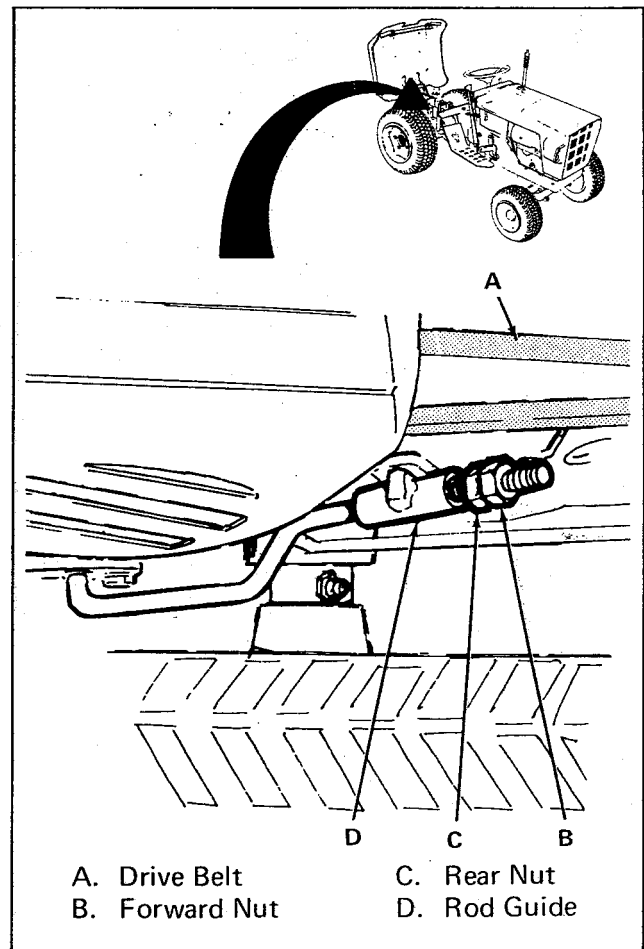

Figure 20. Foot Pedal Brake Adjustment
3. Turn nuts (items B and C, figure 20) in opposite directions to separate them.